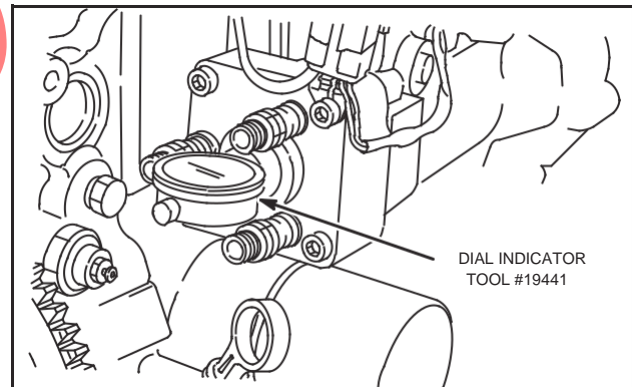

Fig. 3 – Install Timing Tool
3. Remove distributor head screw with washer and install injector pump timing gage, dial indicator Tool # 19441, Fig. 3.